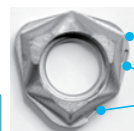

Fig.1
2. The shim must be mounted in the proper direction. While aligning the surface of the shim with the mark on it to the corresponding constraint surface (see Fig. 1) and lightly pressing the shim toward the constraint surface of the pocket wall (see Fig. 2), insert the screw into the hole of the shim and tighten (See Fig. 3). When tightening screw, make sure that the screw is vertical to the pocket floor (See Fig. 3). Recommended torque is 6.0Nm